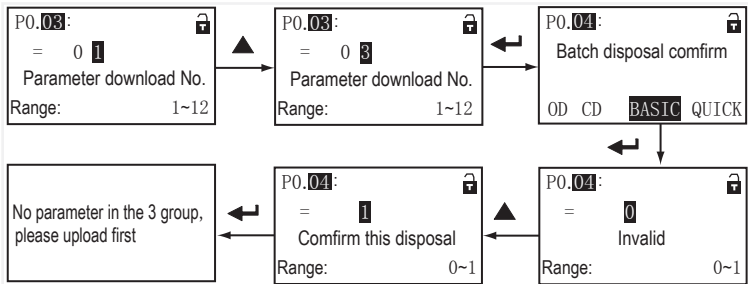

Figure 3-46 YS-P03 without parameters download
2. If download panel group 3 (there is not parameter) parameters to the present controller and then prompts download failure shown as Figure 3-46, it will enter stop state.